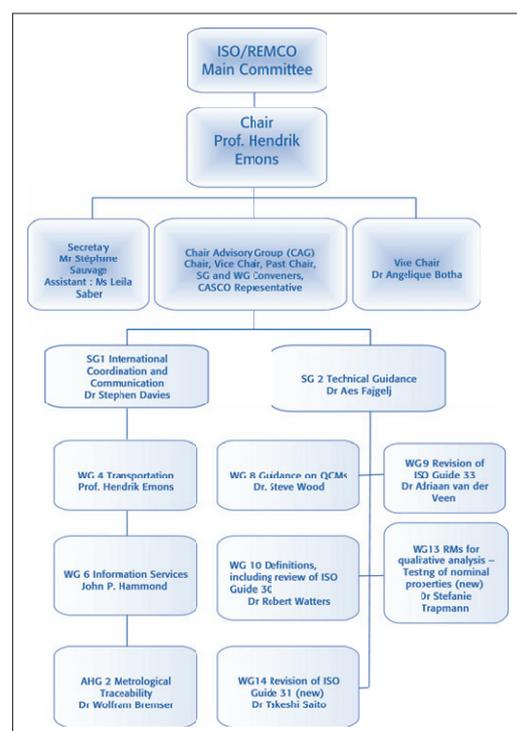

Figure 2.
ISO/REMCO is structured as shown in Figure 2. The organisation consists of Working Groups (WG) set up to implement a specific task, under two Steering Groups (SG1 and SG2). The Chairman's Advisory Group (CAG) provides input to the Chair from the Group convenors.